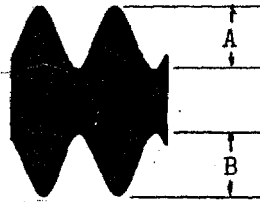

Figure 3-1
- Adjust CARRIER LEVEL control to obtain an AM signal. Refer to Figure 3-1.
- Adjust VR207, AM BAL(T-2107, main board) to equalize the "A" and "B" of the waveform as shown in Figure 3-1.